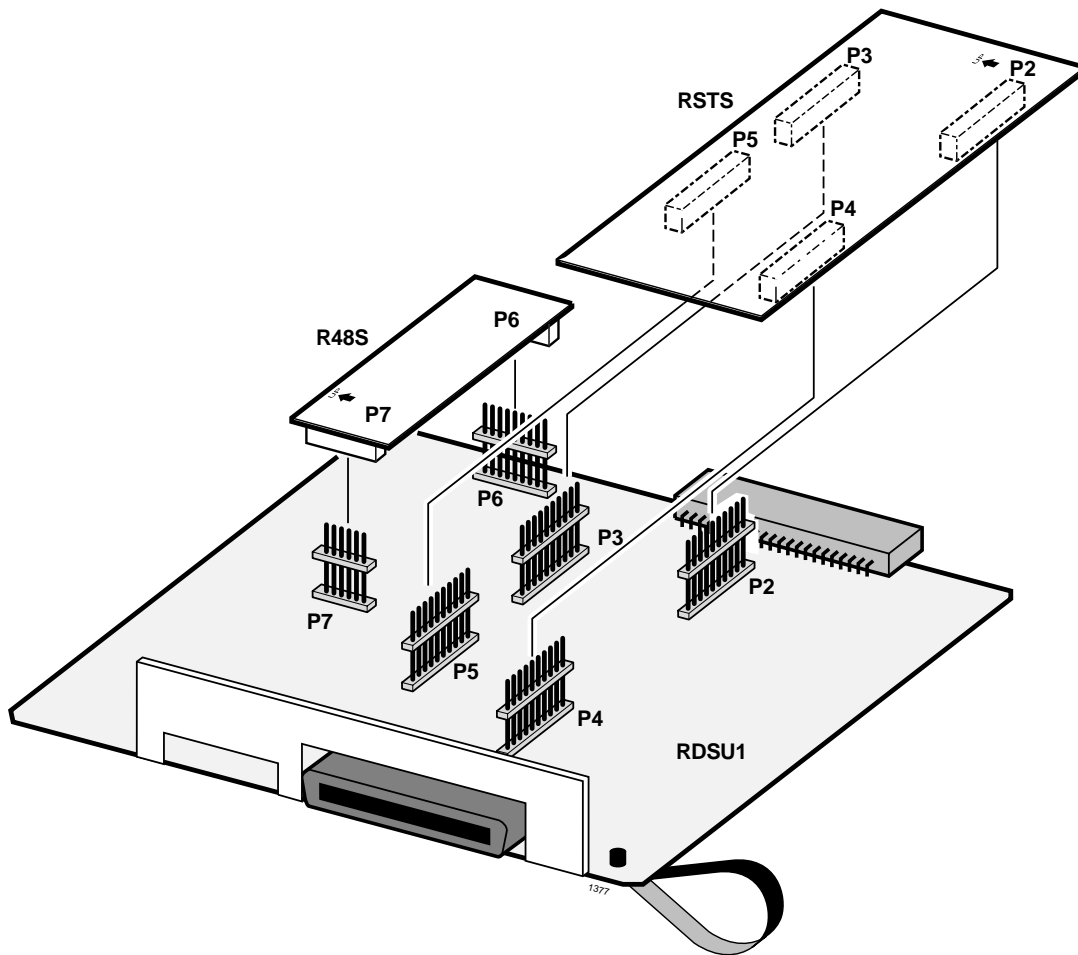

Figure 7-19 RDSU, RSTS PCBs
RDSU and RSTS controls and interface connectors are shown in Figure 7-19. RDSU interface connectors are described in Table 7-13.
- Mate the RSTS connectors P2~P5 with the RDSU connectors P2~P5. RDSU connectors P2~P5 are positioned to allow installation of the RSTS only in the proper position (Figure 7-19).
1. Ensure the SSTU subunit and optional subassemblies are securely attached to the RDSU (Figure 7-19).